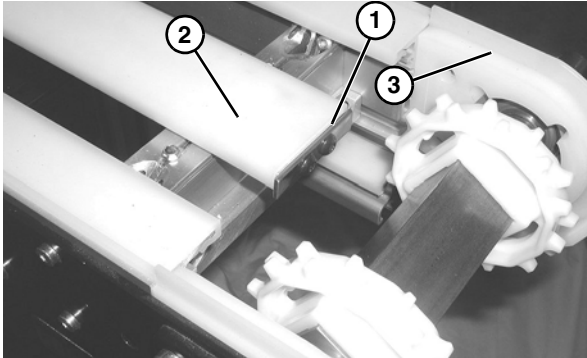

Figure 6
The stop plate (**Figure 6, item 1**) on the center wear strip (**Figure 6, item 2**) faces the drive end (**Figure 6, item 3**) of the conveyor.